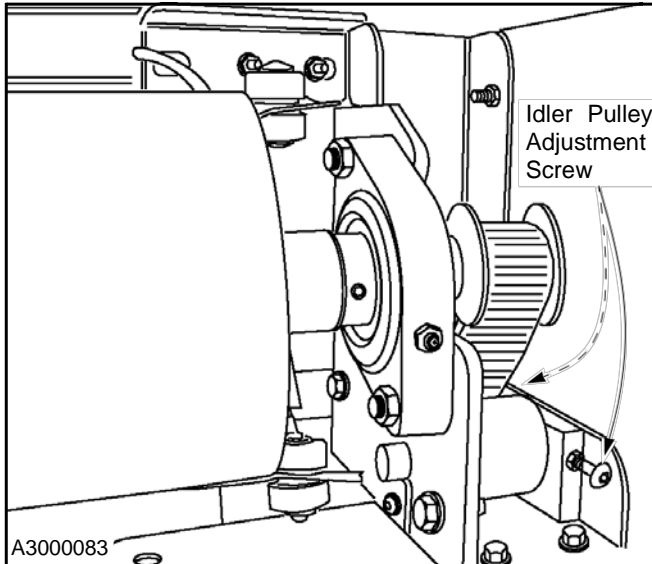

Figure 35
7. If the counterweight strap is tracking to the right, turn the idler pulley adjustment screw clockwise. If the strap is tracking to the left, turn the adjustment screw counterclockwise. When the strap is tracking evenly, lock the jam nut behind the adjustment screw to lock in the setting. (See Figure 35.)